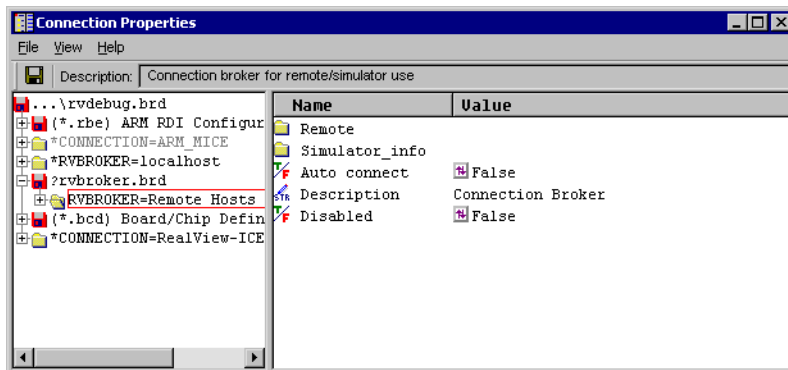

Figure 6-8 Configuring a hosts file
3. Right-click on the `Remote_Hosts` entry and select **Connection Properties...** from the context menu to display the Connection Properties window, shown in Figure 6-8.
Default board file entries are not shown in the hosts file. For example, the setting `Disabled=False` (shown in Figure 6-8 on page 6-12) is the default setting for the new RVBROKER entry and so there is no corresponding entry in the hosts file. However, if you edit this setting so that it becomes `*Disabled=False`, an entry is created in the hosts file, for example: